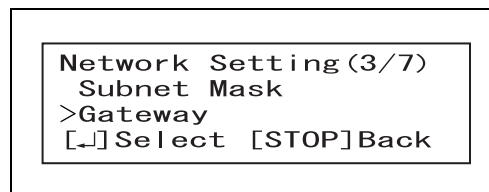

Figure 7.64
- 10** To set the Gateway of the server to be communicated with, select the value of each flashing digit by operating the ▲ and ▼ buttons and press the ENTER button to enter the value. When the last value has been entered, the LCD returns to the screen immediately before the current screen. (See Figure 7.64)